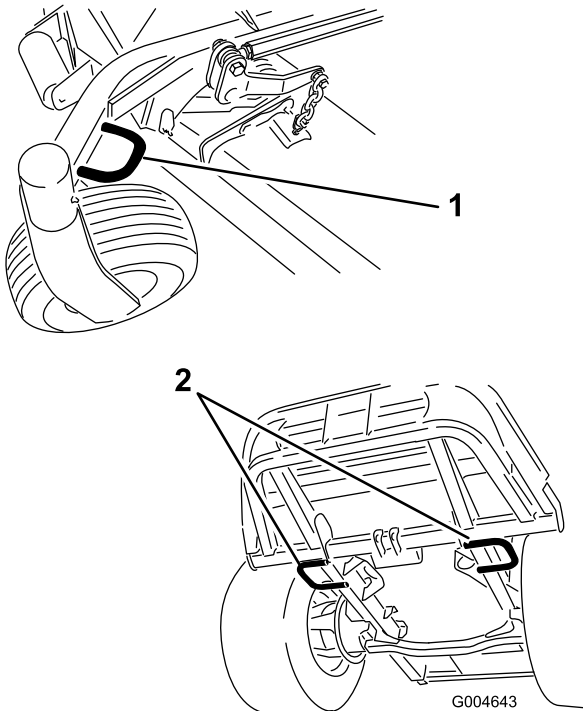

Figure 40
- Securely fasten the machine to the trailer or truck with straps, chains, cable, or ropes as required by local traffic regulations in your area (Figure 40).